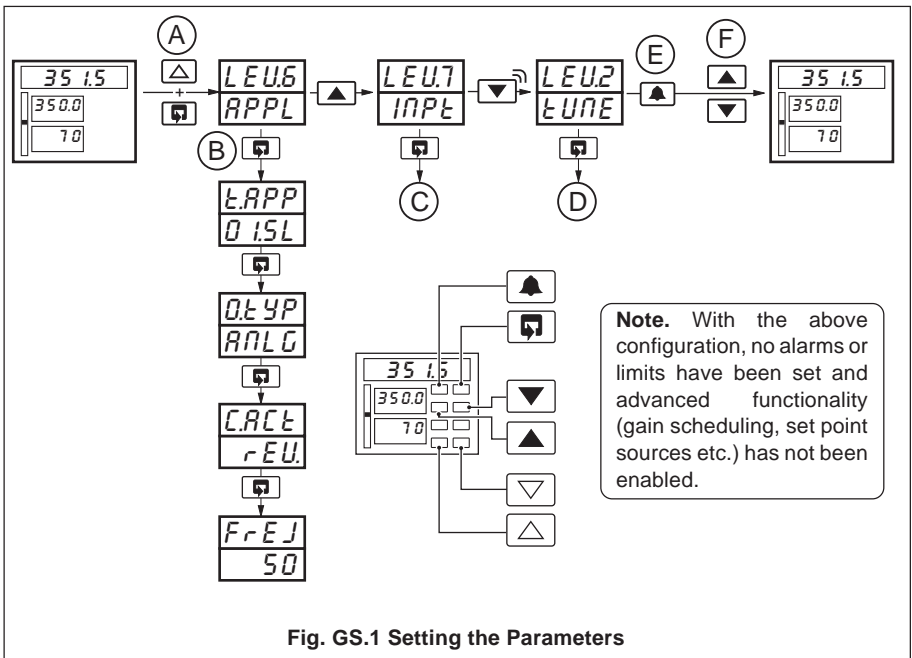

Fig. GS.1 Setting the Parameters
Step 3 – Setting the Parameters (Fig. GS.1)
- (A) Power-up the instrument. Press the and keys simultaneously and hold for 3 seconds to advance directly to Level 6 – Basic Configuration.
- (B) Set the appropriate application template, output type and control action. Use the key to advance between frames and upper and keys to adjust the default values – see Section 5.2 for further information.
- (C) If you are not using 4 to 20mA inputs, then select Level 7 using the upper and keys and set up Analog Inputs I/P1 to I/P3 to suit your process – see Section 5.3.
- (D) Controller templates only: